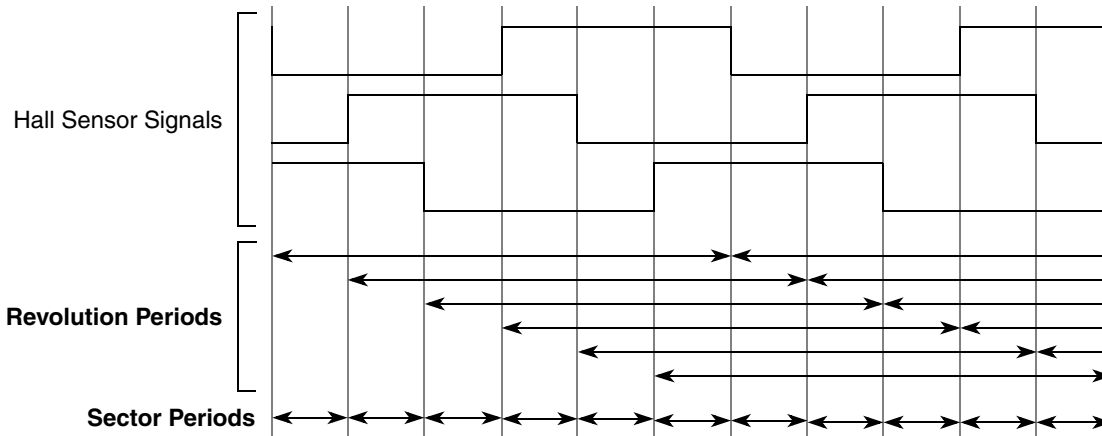

Figure 3. Measuring Revolution Period and Sector Period
- **Sector Period** - This parameter determines the TCR time between the last two changes of the sector. The parameter value is updated each time the sector is changed. The sector period is measured from the last edge to the current edge; see Figure 3.